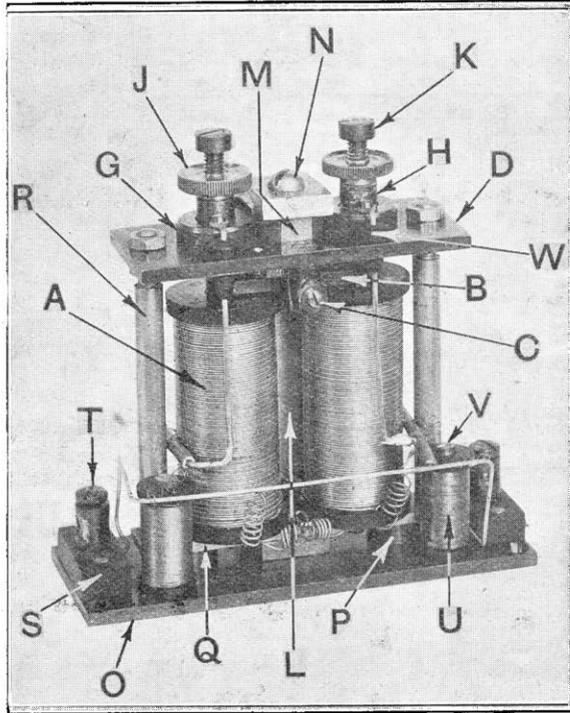

Fig. 1. The complete buzzer.
The photograph, Fig. 1, shows the complete instrument which in this particular case has been built up by employing some of the parts of an electric bell of the magneto type ; these will no doubt be familiar to most readers, as they are fitted with two gongs and are used by the Post Office in the standard telephone system. The original windings were removed and the bobbins subsequently wound differentially with No. 26 D.S.C. copper wire. Prior to
bobbins with two inner ends and two outer ends each, together with their iron cores are constructed. The back bar (Q) is modified somewhat as regards shape at the ends, as in the standard instruments these are provided at one end with a hole and at the other with a slot for fixing to the instrument box ; these holes and slots are cut away, leaving a plain straight back bar with the uprights marked R in Figs. 1 and 2.